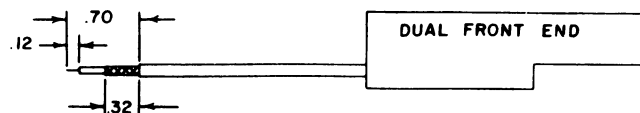
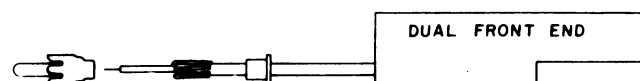

Figure 10 - Stripping Lengths for DFE Cable
Figure 11 - Assembling Phono Connector on DFE Cable
3. Strip the cable as shown in Figure 10 and solder the phono connector onto the cable as shown in Figure 11. Be sure that the center conductor is even with the tip of the phono conductor.